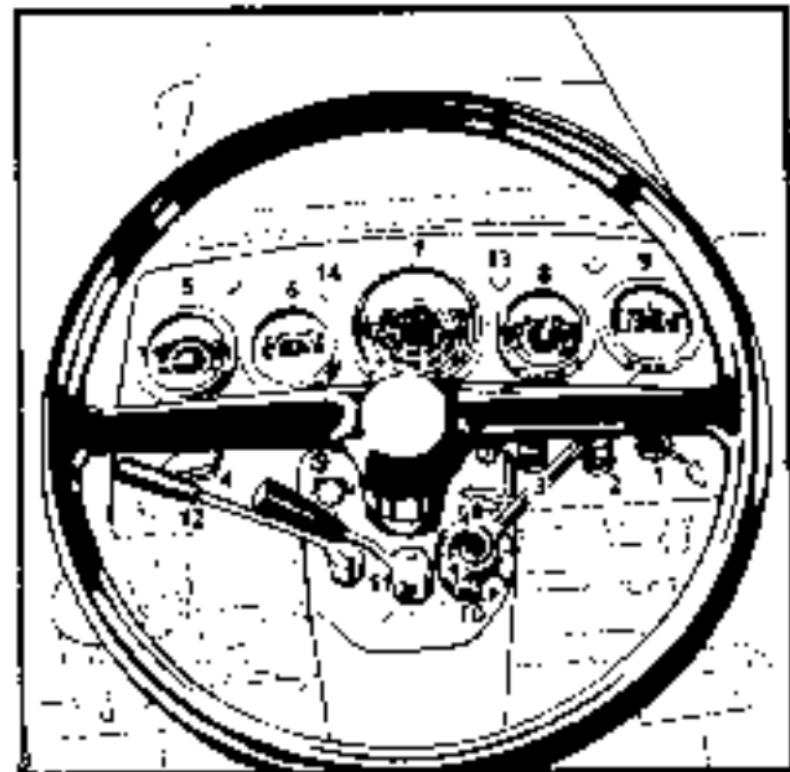

Fig. 1
Switch box with key (Fig. 1:1)
Dashboard illumination switch (Fig. 1:2)
Starter push button (Fig. 1:3)
Trunklid lock with electric horn push button (Fig. 1:4)
- Oil pressure gauge (Fig. 1/5) -- a correct oil pressure varies within the range from 0.2 to 0.55 MPa
- Water thermometer (Fig. 1/6) -- operating temperature shall vary within the range from 80 to 95 °C (overpressure radiator plug opens the cooling circuit at 106° to 111 °C)
- Engine hour counter with speed indicator (Fig. 1/7)
- Air pressure (Fig. 1/8) -- operating pressure 0.6 MPa
- Anemometer (Fig. 1/9)
- Fuel delivery hand control lever (Fig. 1/10)
- Torque multiplier control lever (Fig. 1/11)
- PTO clutch control lever (Fig. 1/12) -- engaging
- Air pressure pilot lamp is red and whenever the air pressure drops below 65%, at the predetermined pressure it is switched on (only on Z 12011 and Z 12045) (Fig. 1/13)
- Pilot lamp of torque converter oil pressure is red and whenever the oil pressure drops below 0.8 MPa it is switched on (Fig. 1/14 - Z 12011 and Z 12045 - optional)